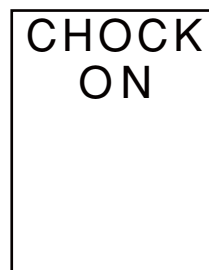

Fig.15
- (4) When the operator applies chocks, and switches on "CHOCK ON" switch, the display screen will display "CHOCK ON." (Fig.15)